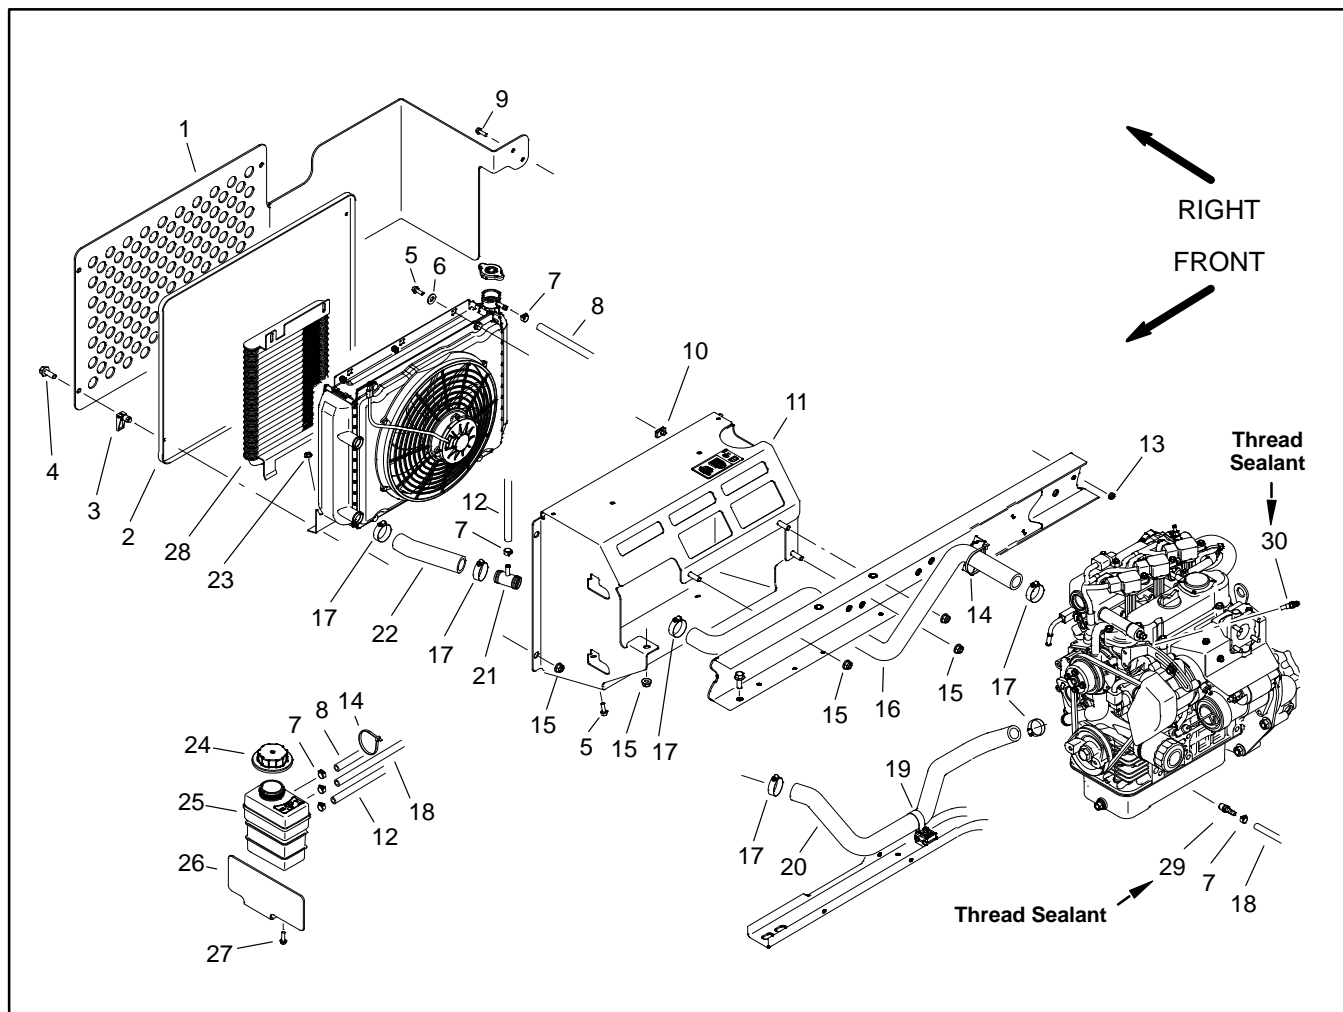

Figure 12
Removal (Fig. 12)
Installation (Fig. 12)
A. Positive (+) battery cable, fusible link harness and harness ring terminal from starter solenoid stud (Fig. 12).